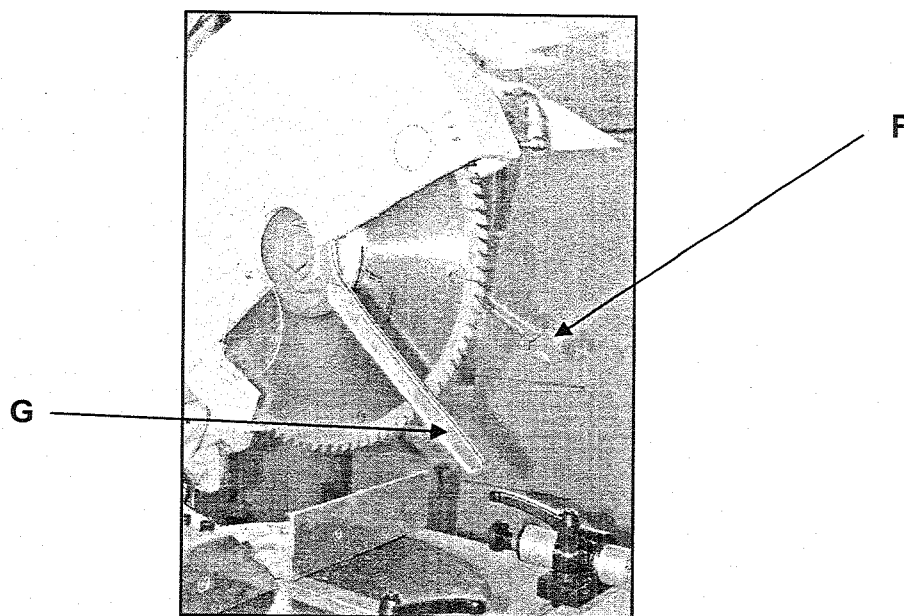

Fig. 13
6. Using a spanner of 36mm , looswn the blade flask screw, making a traction in clockwise direction (Fig. 13 part. **G**) keeping firm the contrast spanner (Fig. 13 part. **F**), unscrew the screw and remove the flask to be able to extract the blade from the shaft.